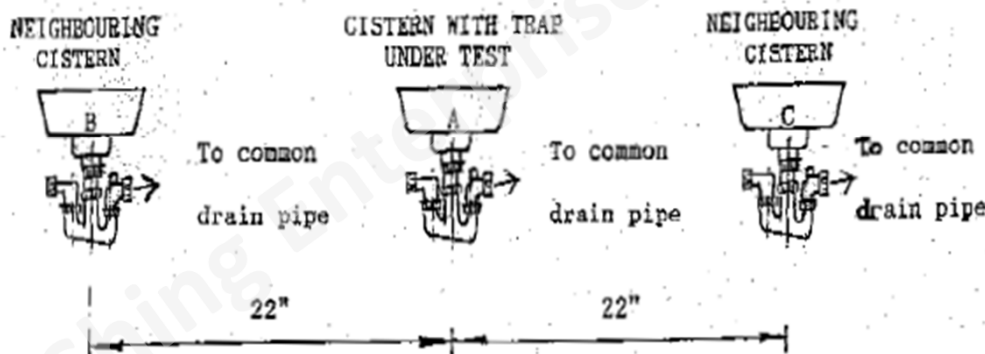

Figure 1 - Arrangement of cisterns for anti-siphonic test
**Test methods** : A row of three cisterns were used for the purpose of testing the effect of siphonic actions on the waste trap. The cisterns were spaced at 22" (560mm) apart as shown in Fig. 1. The following tests were carried out to measure the water seal in the trap of the sample before and after the siphonic tests; the side inlet of each trap was sealed by plug: